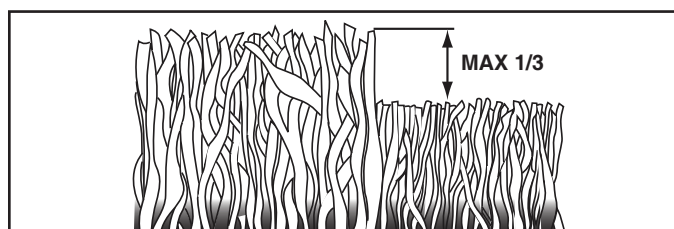

Fig. 24
- For best results, adjust the mower cutting height so that the mower cuts off only the top one-third of the grass blades (See Fig. 24). For extremely heavy mulching, reduce your width of cut on each pass and mow slowly.